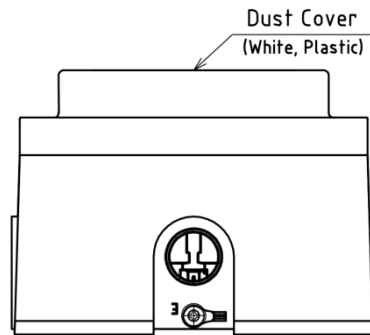

Figure 2 : Dust Cover
- The Dust Cover (see Figure 2) keeps dust and particles out of the smoke chamber that may enter. Don't remove it until installation is over.